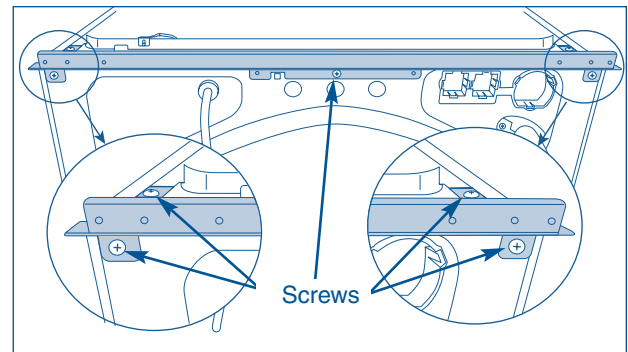

Figure 4-35.
2. Using a #2 square bit screwdriver, extract the three screws from the rear of the top rear brace. (See Figure 4-35)